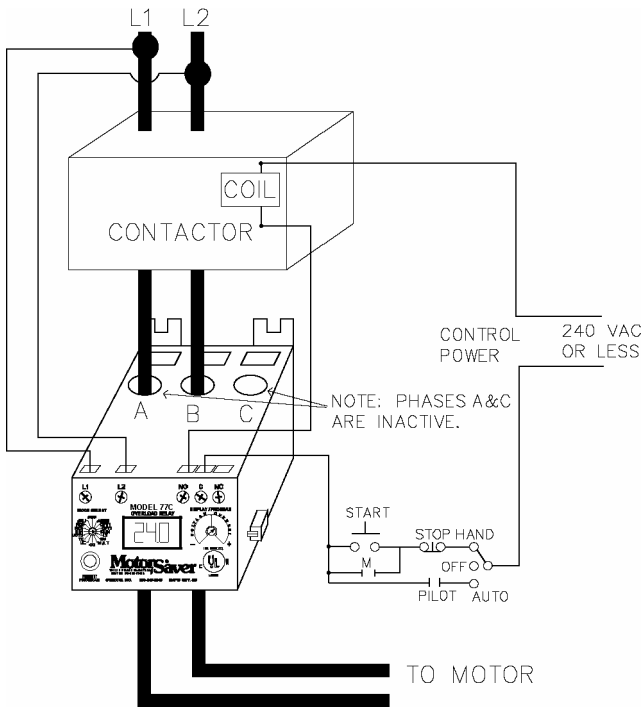

Figure 1: Typical Wiring Diagram
2. Insert the motor conductors through the round holes marked A and B. Terminate the conductors at the line or load side of the magnetic contactor. **For motors with full load amps less than 25 Amps**, loop the conductors through the holes marked A and B according to Table 1. The rectangular holes are provided for wire looping (see Figure 1).
4. Connect the single-phase power from the line side of the contactor to L1 and L2. First insert a #12 - #18 AWG copper wire into the top of the terminal marked L1 and tighten the screw on the front of the overload relay. Connect the other end of the wire to the line side of the contactor. Repeat these steps for L2 (see Figure 1).
5. Connect the output relay to the circuitry to be controlled (see Figure 1). To control a motor, connect the NO (normally open) contact in series with the magnetic coil of the motor starter as shown. To sound an alarm, connect the NC (normally closed) contact in series with the alarm (not shown).
Motor starts and stops a short time later but there is no fault indicator	Control circuit may be wired to NC relay rather than NO relay (see Figure 1, page 3).